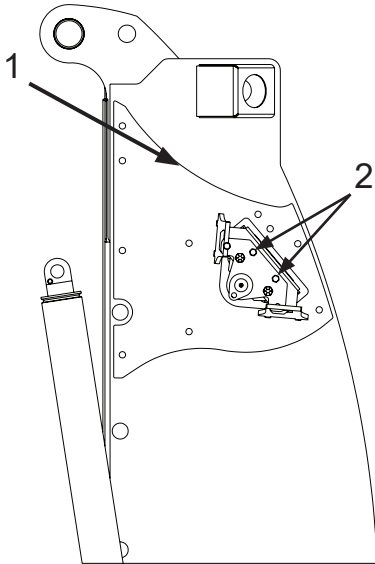

Figure 8
5. Mount the lug reinforcement bracket (Figure 8, Item 1) using the two 1/2-13 bolts in the top of the lug (Figure 8, Item 2). Tighten these bolts sufficiently that they hold the bracket in place and position the bracket parallel with the tailgate as described.